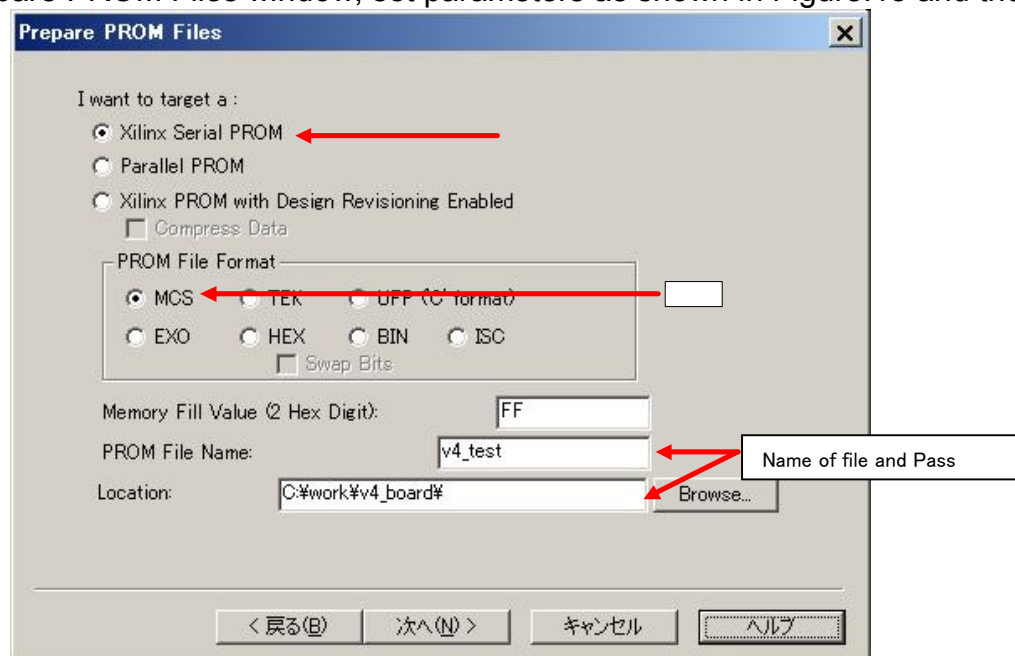

Figure.18
4) On the Prepare PROM Files window, set parameters as shown in Figure.18 and then click Next.